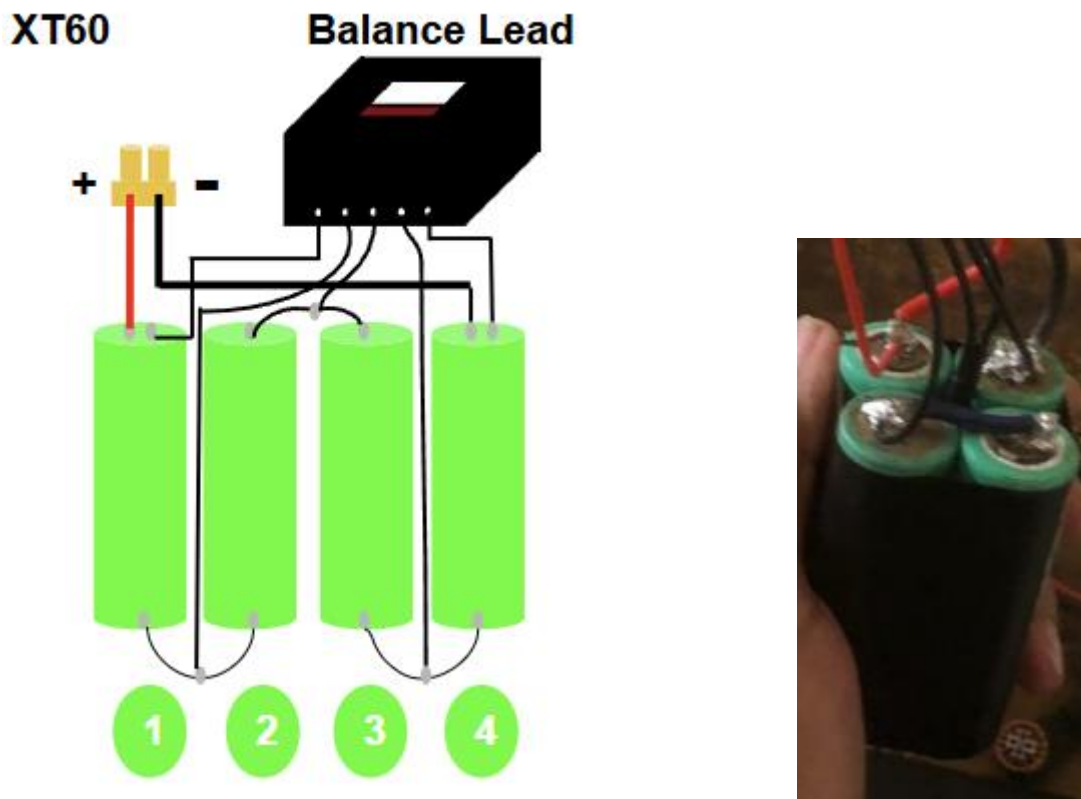

Figure 2: Nickel strip connections for 4S configuration on 21700 cells
- 4.2.1. Using a spot welder, attach nickel strips to connect the cells in series. Weld a nickel strip from the positive terminal of the first cell to the negative terminal of the second cell, repeating for all cells to form a 4S configuration, as shown in Figure 2. Ensure at least 4 weld points per connection for reliability.